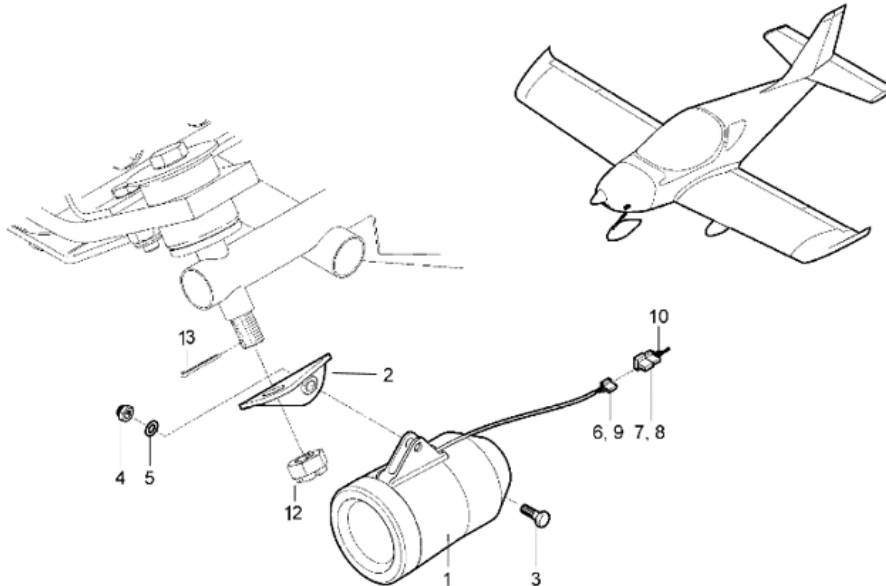
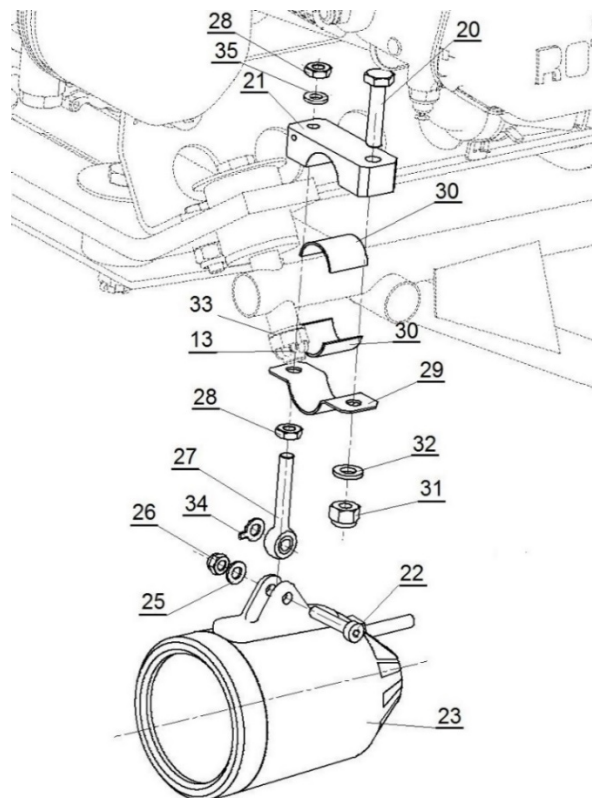

Figure 1 – Dismounting of the Original landing light Trail Tech 4213-SX
Figure 2 – Mounting of the New landing light Trail Tech D112-SX
Legend to the figures 1 to 5 below:
7. Disconnect the Original landing light from the aircraft wiring system - cable with the connector (6, 9) from the wiring (7, 8, 10). See Figure 1 below.
8. Remove the Original landing light (1) with bracket (2) from the engine mount.
9. Screw back the castle nut (12) and secure with the new cotter pin (13). To eliminate the slackness use the washer (33).
10. Install the New landing light (23) with the new holder (21, 29, 30) supplied by the Czech Sport Aircraft using connecting parts (20, 31, 32, 22, 25, 26, 27, 28, 35), see Figure 2.
11. If the gap between the light mounting (23) and the threaded eye (27) on the screw (22) is 0,5 mm or more, insert the washer (34) between the light mounting and the threaded eye. Tighten the screw (22) firmly.
12. Interconnect the airplane connector (8) with the landing light connector (24), see Figure 1 and 3.